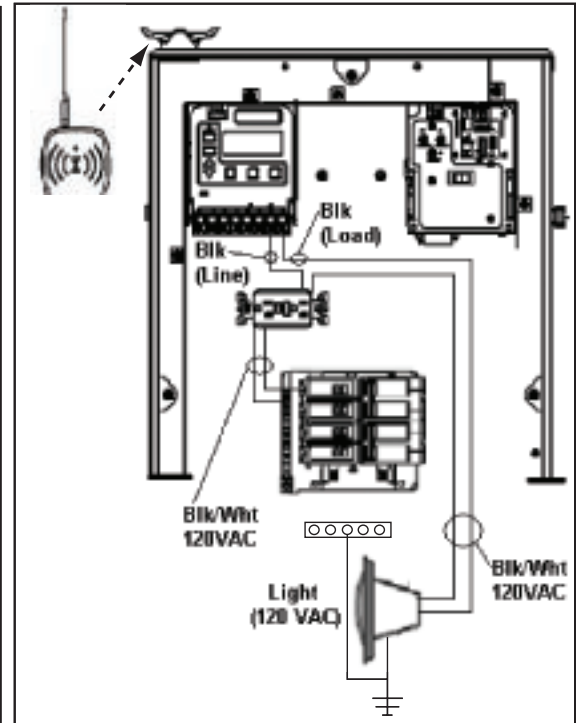

Figure 3-8
1. Install a GFCI receptacle and connect the neutral and hot wire, from the circuit breaker, to the LINE side of the GFCI. (See Figure 3-8).
- b. From the light to the LOAD side of the clock. (See Figure 3-8.)